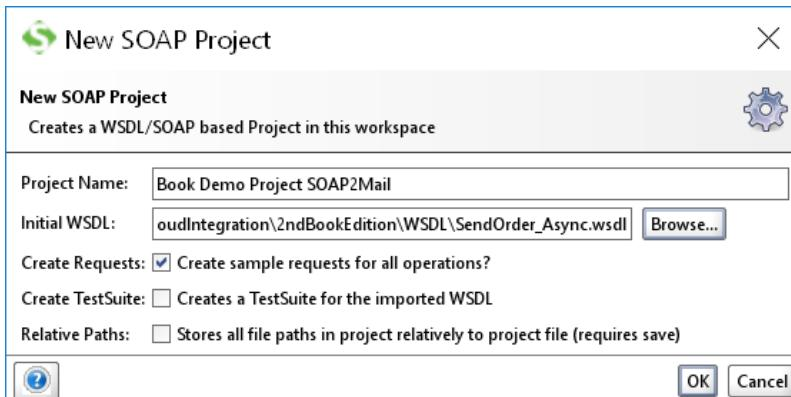

Figure 2.14 Required WSDL File Upload When Creating a Project
2. Specify a **Project Name**, and click on the **Browse** button, located to the right of the **Initial WSDL** field (Figure 2.14).